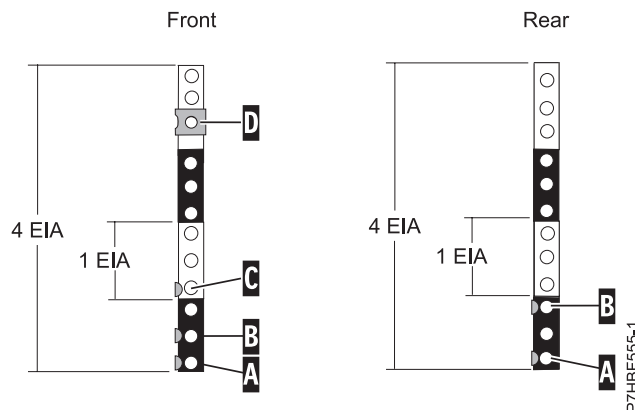

Figure 3. Marking holes on the front and rear of the rack frame
1. Facing the front of the rack and working from the right side, locate the bottom EIA unit that your expansion unit uses. Make a note of the EIA location. Use a tape, a marker, or a pencil to mark the bottom hole of this EIA unit as **A**. Mark the rack so the mark can also be seen from the rear of the rack, as shown in Figure 3.
2. Beginning with the hole identified by mark **A**, count up one hole and place a second mark as **B**. Mark the rack so that that mark can also be seen from the rear of the rack, as shown in Figure 3.
3. Beginning with the hole identified by mark **B**, count up two holes and place a third mark as **C**, as shown in Figure 3.
4. To install the nut clip, beginning with the hole identified by mark **C**, count up six holes and place a fourth mark as **D**. Install the nut clip at location **D** as shown in Figure 3.
8. Beginning with the hole identified by mark **A**, count up two holes and place a second mark as **B**, as shown in Figure 3 on page 5.